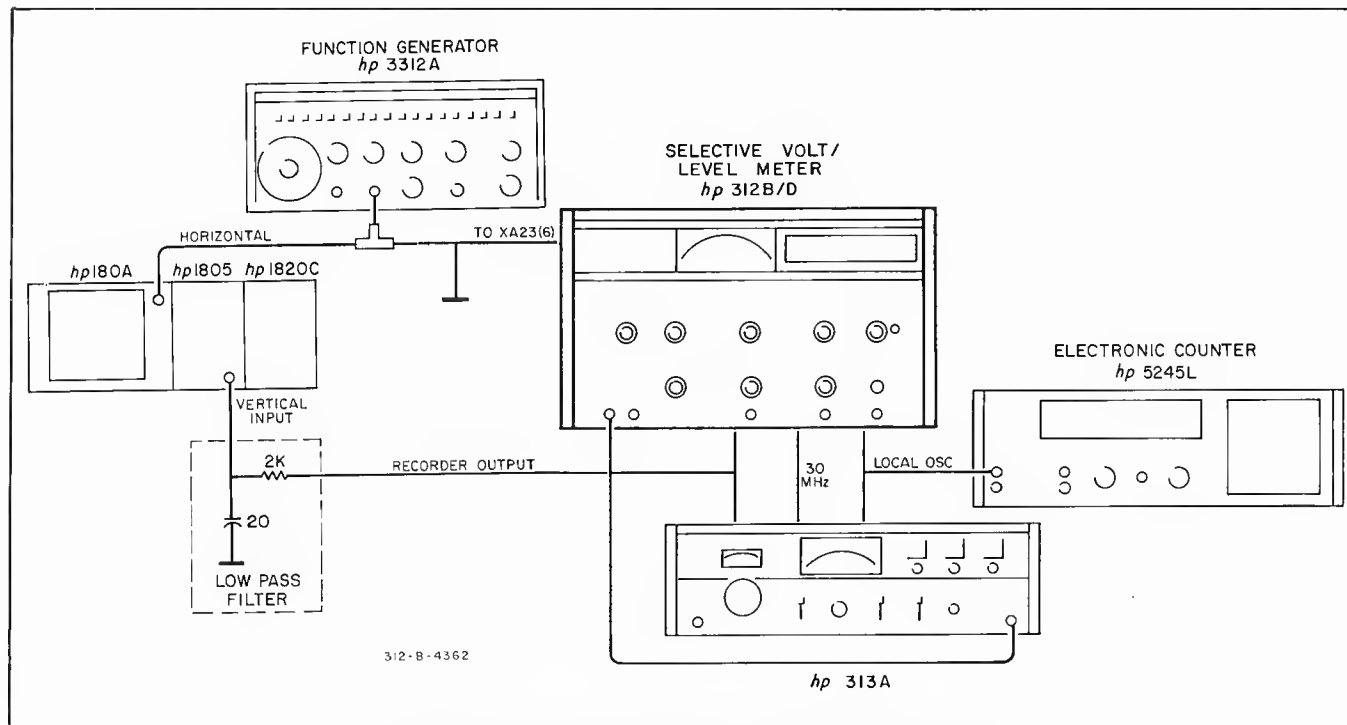

Figure 5-13. Frequency Response – A33 Adj. – 312B/D.
- a. Remove A23 from the 312B/D. Connect the equipment as shown in Figure 5-13.
- Set up the equipment as shown in Figure 5-13.